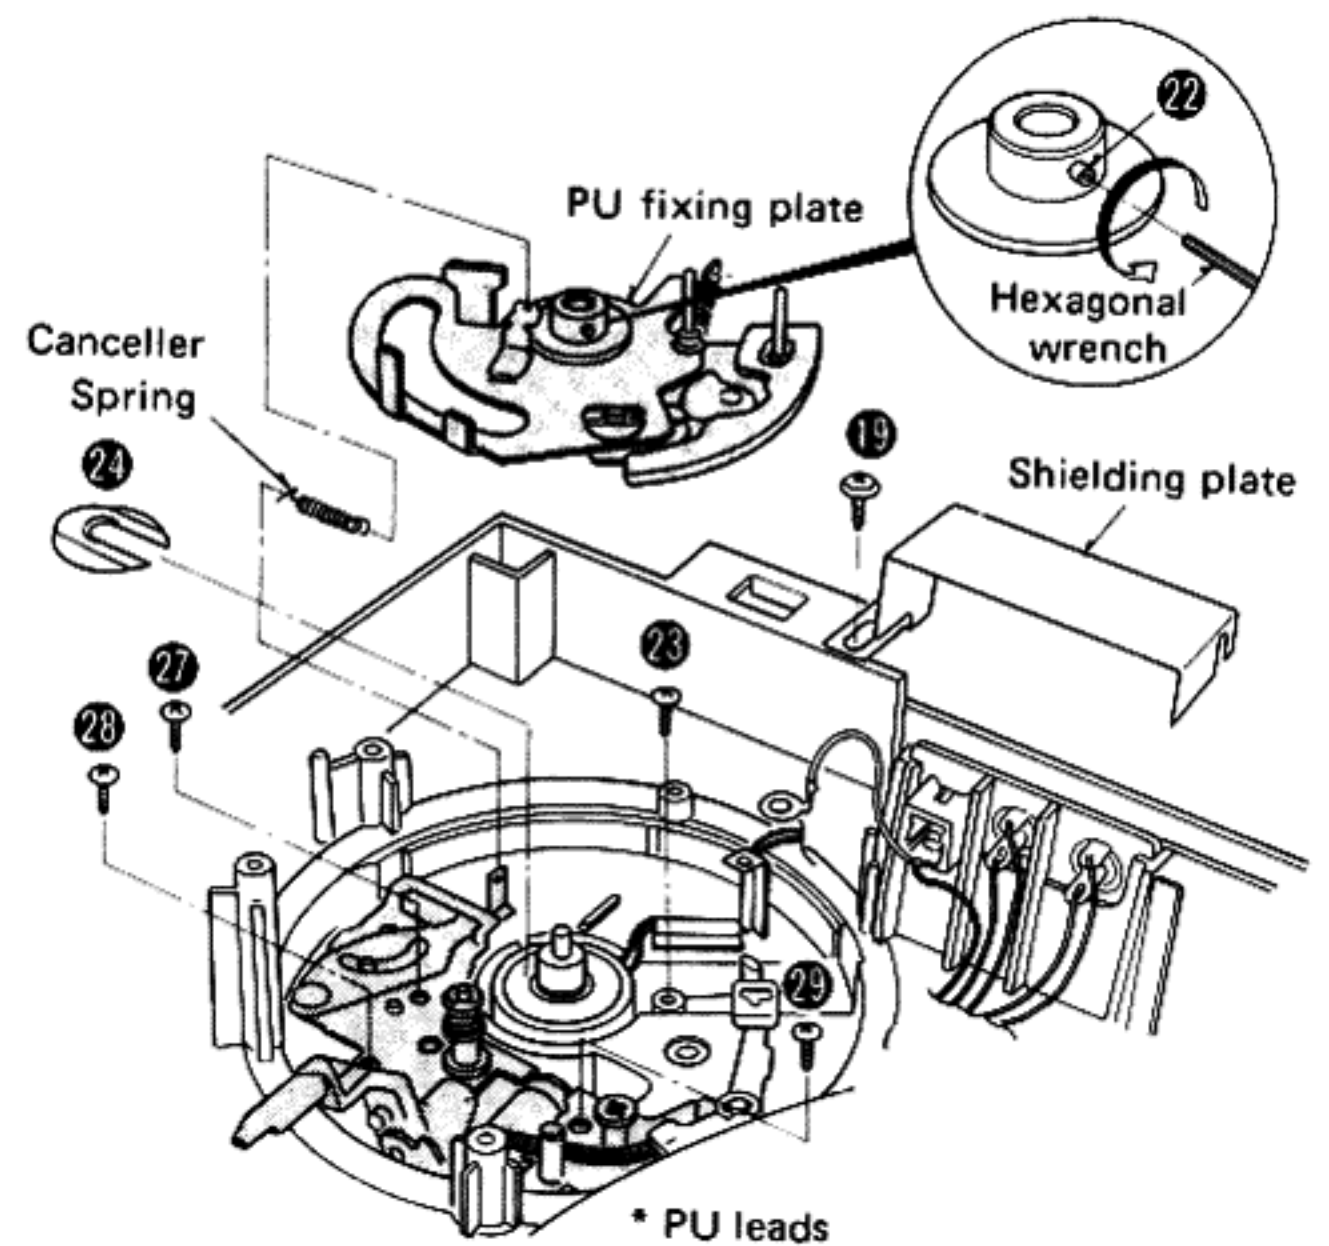

Fig. 6
2. Remove the canceller spring from the PU fixing plate, and loosen the screw 22 with a hexagonal wrench. (Fig. 6)
4. Remove the PU lead wire arranging plate setscrew (Fig. 6: 23) and stopper (Fig. 6: 24). Then the tonearm can be removed.
4. Remove the 3 setscrews (Fig. 6: 27~28) of the lift base.